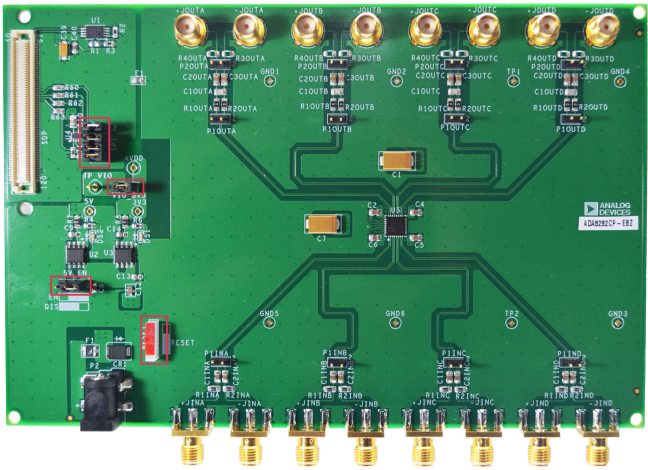

Figure 2. Default Evaluation Board Configuration
The jumper settings/link options on the evaluation board for the required operating modes are described in Table 1. Figure 2 shows the default jumper settings.
1. Configure the jumpers as shown in Figure 2.